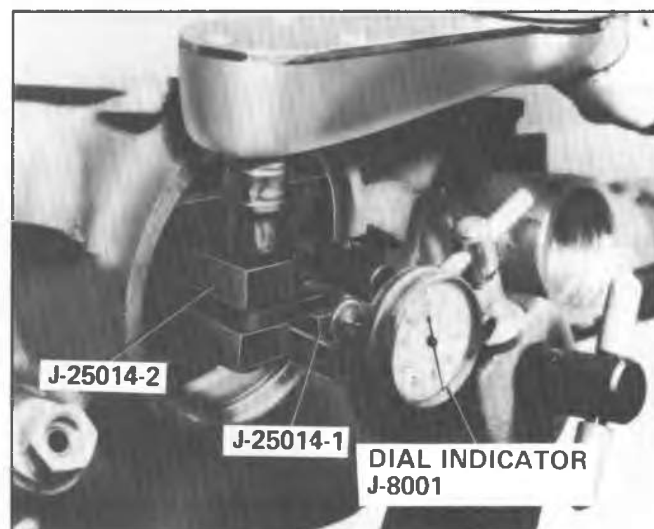

Fig. 7A-146A--Intermediate Band Apply Gages
4. Inspect intermediate servo cover and piston assembly for proper combination and usage. (See Fig. 7A-145A).